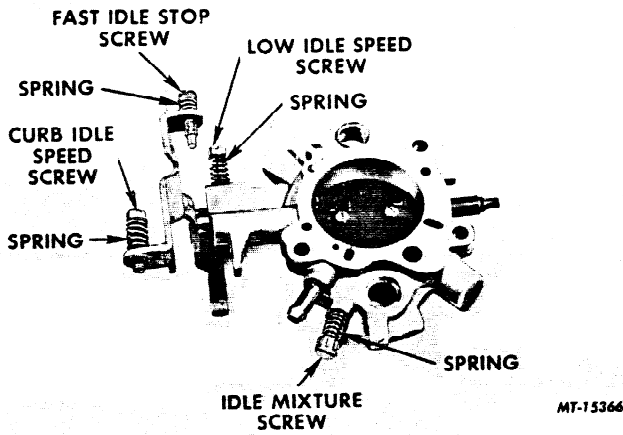

FIG. 29 Throttle Body and Idle Adjustment Screws
2. Remove the curb idle screw and spring, low idle screw and spring and fast idle screw and spring. Certain applications may not have all of these screws (Figure 29).